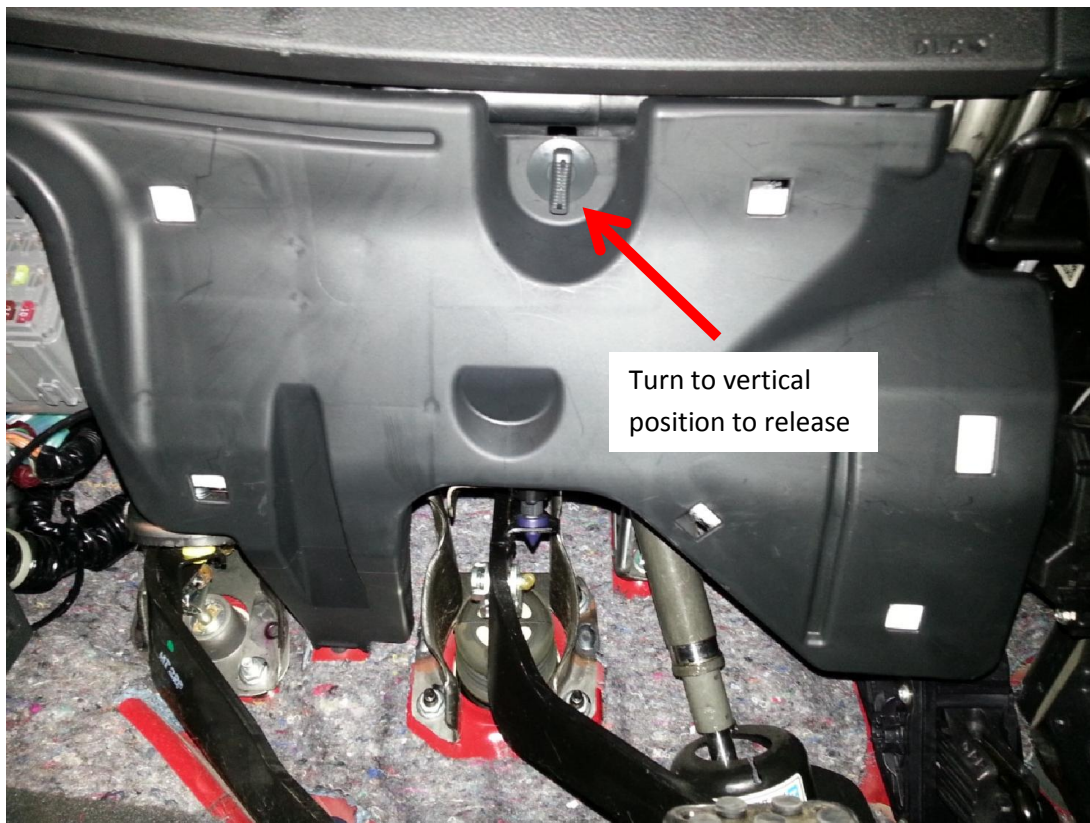

Figure 1
1. Remove plastic cover located underneath the dash on the driver's side (**Figure 1**).